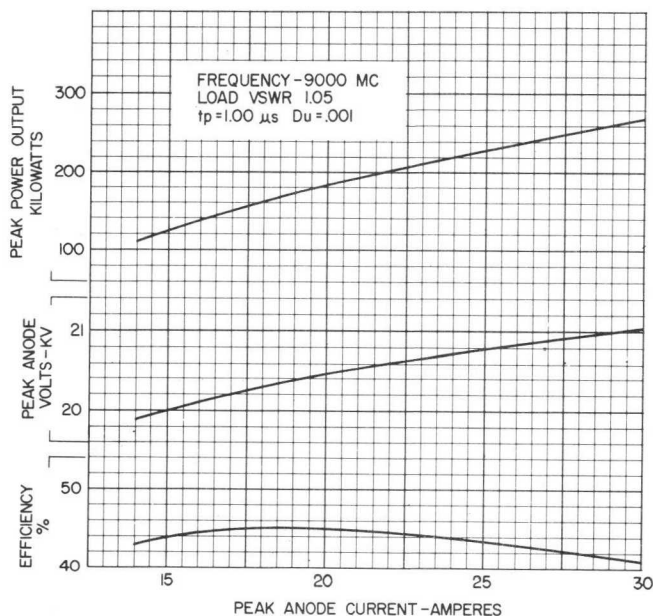
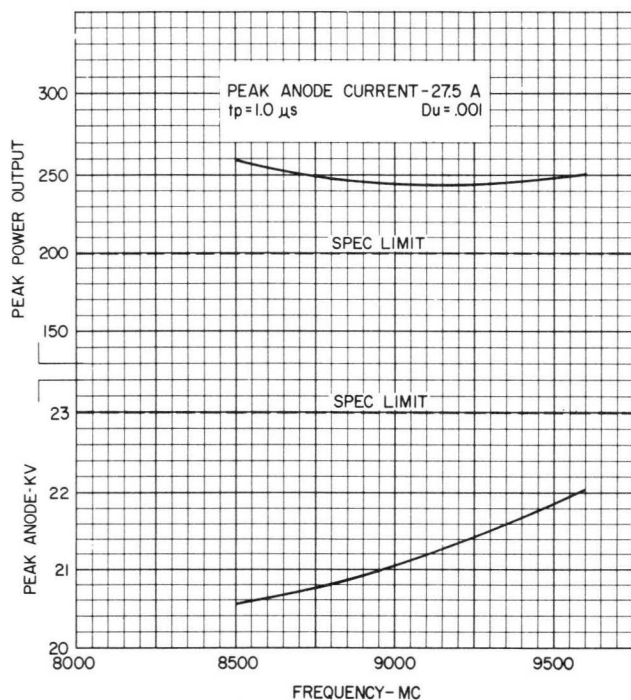

Figure 10—Typical Performance Curves for Sylvania 7692A and M-4193A.
Figure 11—Typical Performance Curves for Sylvania 7692A and M-4193A.
**Typical performance curves** for the 7692A and M-4193A are shown in Figures 10 and 11. The peak power output, the required peak anode voltage and the operating efficiency are plotted in Figure 10 for a wide range of peak anode currents. It should be noted that these curves are for a particular set of operating conditions and the performance may vary slightly for different conditions of pulse width, duty cycle and load VSWR. Figure 11 depicts the typical variation in Peak Power Output and Peak Anode Voltage as the tube is tuned over the range.